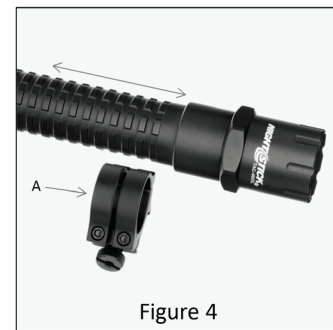

Figure 4
5. Decide where the Quad Lock Mount (Figure 4-A) is to be located on the light. It is important that the mount remain clear of the Remote Pressure Switch, otherwise accessing the batteries and CR-123 Battery Carrier will require complete disassembly of the Quad Lock Mount.